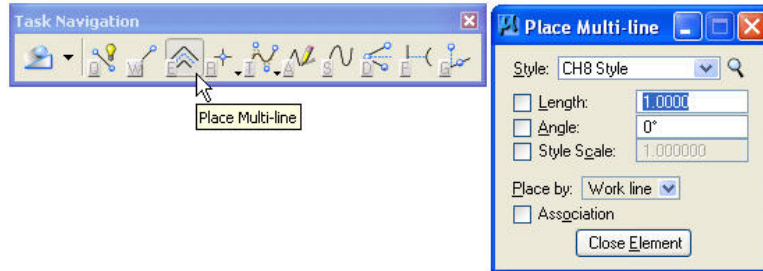

Figure P8–6 Invoking the Place Multi-line tool
STEP 2: Invoke the Place Multi-line tool from the Task Navigator tool box (active task set to Linear), and, in the Tool Settings window, select **Ch8** Style from the Style menu, select **Workline** from the **Place by** menu, and turn OFF the **Length** and **Angle** check boxes, as shown in Figure P8–6.
The completed Multi-line element is shown in Figure P8–7.